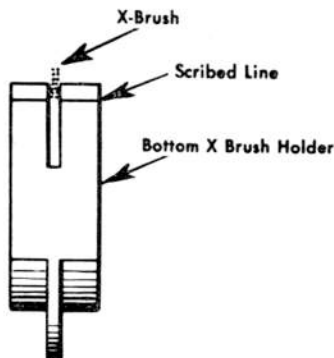

Figure 20. X Brush Projection
1. To obtain the proper brush projection and tension, insert the X brush in its holder so the heel of the brush coincides with the scribed line on the bottom of the X brush holder. Form the X brush as required to position it centrally in the holder. (Figure 20)